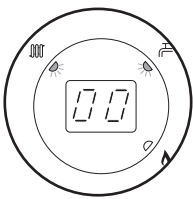

Fig. 89
6. The display will show '00', indicating maximum rate, then revert to 'P' alternating with the current boiler temperature (Figs. 89, 90 & 91).